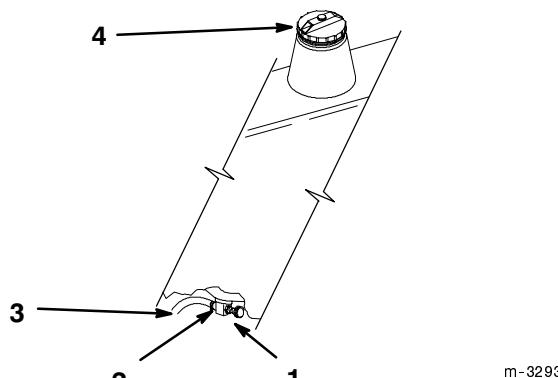

Figure 63
2. Close fuel shut-off valve at fuel tank (Fig. 63).
6. Open fuel shut-off valve at fuel tank (Fig. 63).
3. Loosen the hose clamp and slide it up the fuel line away from the fuel shut-off valve (Fig. 63).
4. Pull the fuel line off fuel shut-off valve (Fig. 63). Open fuel shut-off valve and allow gasoline to drain into a gas can or drain pan.
5. Install the fuel line onto the fuel shut-off valve. Slide the hose clamp close to the fuel shut-off valve to secure the fuel line (Fig. 63).